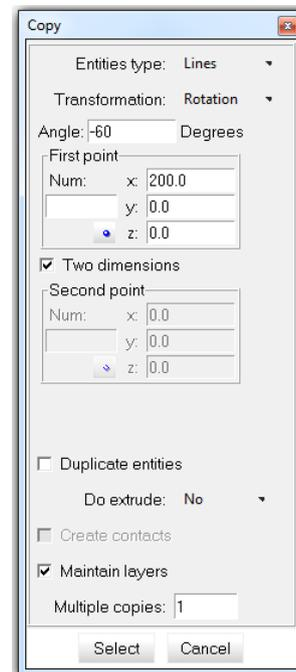

Figure 4. The Copy window
- 7 . Go to the **Copy** window (Figure 4), which is found in **Utilities->Copy**.